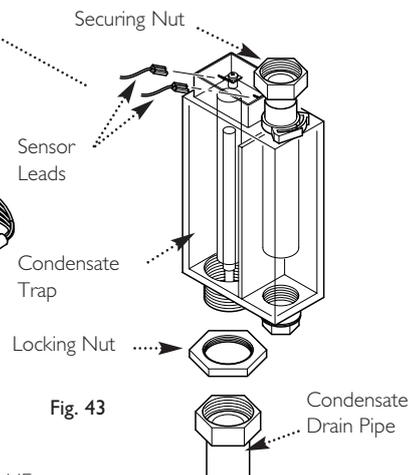

Fig. 43
- Undo the condensate trap securing nut, lock nut and the condensate drain pipe. Remove the condensate trap and disconnect the sensor leads (Fig. 43).